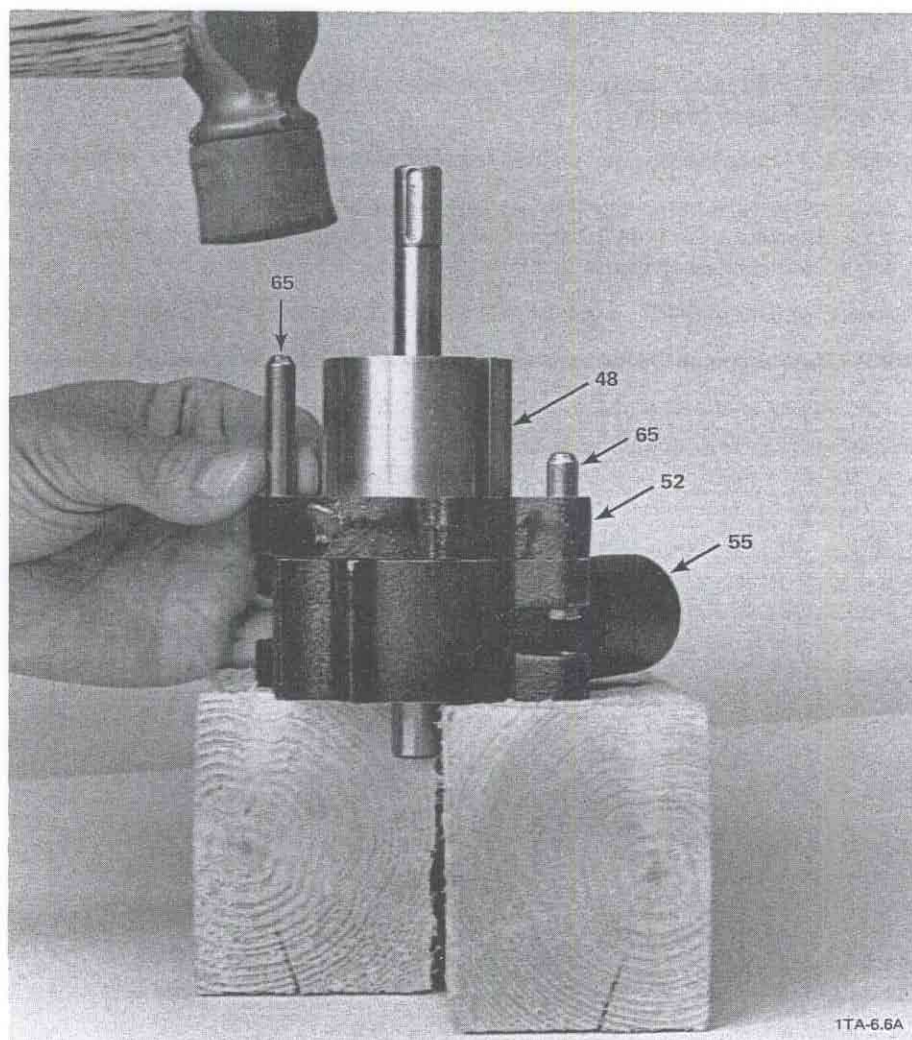
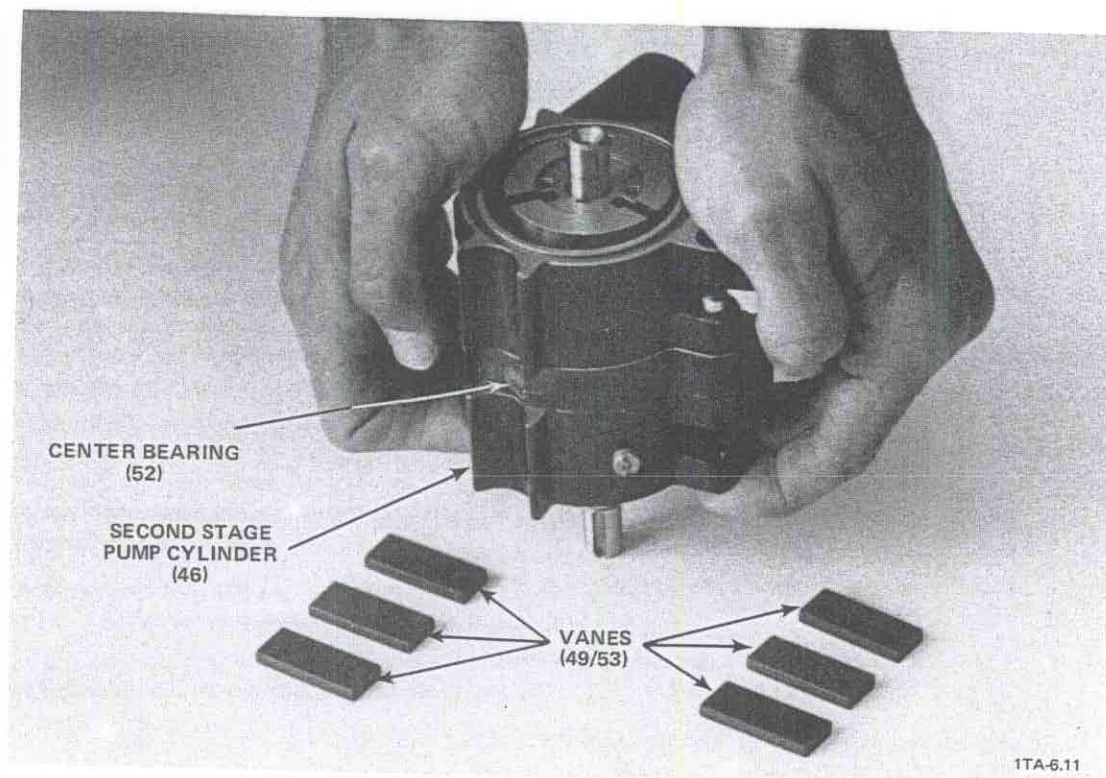

Figure 5-19. Driving the Long Cylindrical Pins that Align the HV Cylinder and the Center Bearing (D2A Pump Model Shown)
Figure 5-20. Pulling the Second Stage Pump Cylinder Tight Against the Center Bearing (D2A Pump Model Shown)
- a. Place the high vacuum (HV) stage cylinder (55) so that it is lying flat with the intake tube portion (the top) on the right facing away from you (see Figure 5-19). Fit an O-ring (47) into the O-ring groove on the cylinder (55) surface that is facing up.
- b. Attach the assembly that you put together in Step F-5 to the HV stage pump cylinder (55) as follows:
Step F-6 b (Cont'd.) (1) Take the Step F-5 assembly and insert its HV-stage end (the end that has two pulling holes on the outside end of the rotor) down into the HV stage cylinder (55) until the center bearing plate (52) rests against the HV stage cylinder (55) (see Figure 5-19).
(2) Align the two alignment holes in the center bearing plate (52) with the two upper alignment holes on the HV stage cylinder (55). (See Figure 5-19).
(3) **NOTE:** When driving the two long cylindrical pins (65) into the alignment holes, the flat end (nonbeveled end) of the pins (65) should face the HV cylinder (55). The HV cylinder is the one with the intake tube portion.
**REQUIRED ACTION:** Using a rubber hammer, hit the beveled end of the pins to drive the two long cylindrical pins (65) down through the two alignment holes in the center bearing plate (52), then through the two upper alignment holes in the HV cylinder (55) until the flat end of each pin extends just out of each upper HV-cylinder alignment hole (see Figure 5-19).
(4) Ensure that the center bearing plate (52) and the HV stage cylinder (55) are tight against each other and that they remain tight throughout the module assembly sequence.
c. Place the second stage pump cylinder (46) so that it is lying flat with the top edge (the flat portion that has the screw holes, exhaust holes, and gas ballast hole) on the right facing away from you. Fit an O-ring (47) into the O-ring groove on the cylinder (46) surface that is facing up.
**For D30A, D60A, and D90A pump models,** the second stage cylinder (46) should be lying flat on an open vice or other open support, so that the shaft can be inserted through it in Step d(3).
d. Attach the assembly that you put together in Step b(3) to the second stage pump cylinder as follows (see Figure 5-20):
(1) Take the assembly from Step b(3) and insert its second-stage end (the end that has the longer section of the shaft) down into the second stage pump cylinder (46).
**REQUIRED ACTION:** Align the beveled end of the two long cylindrical pins (65) (the pins which extend out of the alignment holes in the center bearing plate (52)) with the two upper alignment holes in the second stage cylinder (46).
(3) **NOTE:** When Step d(3) is completed, the beveled ends of the two long cylindrical pins (65) should extend most of the way through the upper alignment holes in the second stage pump cylinder (46).
**REQUIRED ACTION:** For the D2A, D4A, D8A, and D16A pump models, while keeping the assembly vertical, pull the second stage cylinder (46) straight up over the long cylindrical pins (65) until it is **tight** against the center bearing plate (52) (see Figure 5-20).
**For the D30A, D60A, and D90A pump models only,** while keeping the assembly vertical, push the Step b(3) assembly straight down until it is **tight** against the second stage cylinder (46).
(4) Ensure that the cylinders (46/55) and center bearing plate (52) remain tight against each other throughout the module assembly sequence.
e. **NOTE:** If you are reusing the old vanes (53), make sure that each used vane is replaced in its same rotor slot. Also make sure that the orientation of each vane is the same as it was before disassembly so that each used vane is **not** turned end-for-end in its slot.
**NOTE:** Be sure that the slotted edge of the vanes (53) faces the center of the rotor (54) when inserting the vanes into the rotor.
**NOTE:** For the D4A, D16A, D60A, and D90A pump models only, the high vacuum stage rotor (54) and vanes (53) are longer than the second stage rotor (48) and vanes (49). For these pump models, be sure to insert the longer vanes (53) into the high vacuum stage rotor (54).
**REQUIRED ACTION:** Repeat Step C-11, except assemble rather than disassemble, to insert the three vanes (53) into the slots in the high vacuum stage rotor (54).
- f. While keeping the partially assembled module vertical, fit an O-ring (47) into the O-ring groove on the HV-cylinder (55) surface that is facing up (see Figure 5-20).
- g. Attach the rear end plate (60) to the partially assembled module as follows:
- (1) **NOTE:** Be sure to attach the rear end plate (60) to the HV-stage end of the module. The HV pump cylinder (55) is the one with the intake tube portion.
**NOTE:** The side of the rear end plate (60) that has the bronze bushing faces out.
**REQUIRED ACTION:** While keeping the partially assembled module vertical, align the rear-end-plate bushing hole with the shaft. Slide the rear end plate (60) down over the shaft until the machined surface of the rear end plate fits **tight** against the HV stage cylinder (55).